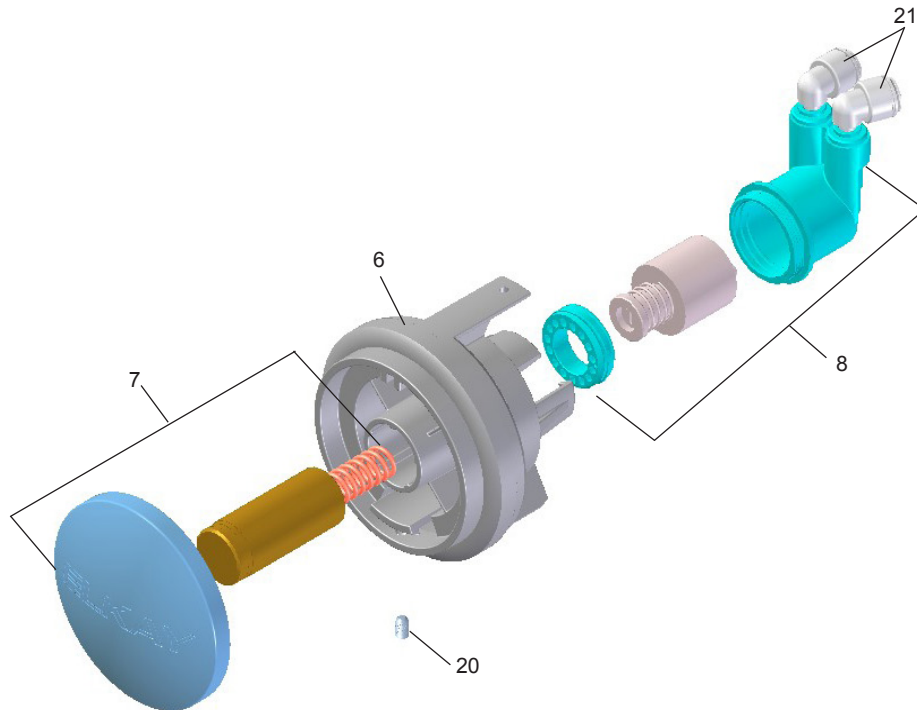

Figure 6 - Push Button Assembly
15. Check stream height from bubbler. Stream height is factory set for 35 PSI supply. If supply pressure varies greatly from this, remove push button (Item 7 - Fig. 6) and adjust the screw on the regulator (Item 8 - Fig. 6). To remove push button, remove setscrew from bottom of sleeve (Item 20). Insert a small punch in screw hole and push up while grasping the push button and pull forward removing the push button. Clock wise adjustment will raise stream height and counterclockwise movement will lower stream height. For best adjustment stream should hit basin approximately 6-1/2" from the bubbler. Reassemble the push button by pushing in on button until the push button catches in the sleeve. Reinstall the set-screw (Item 20) in the sleeve (Item 6).